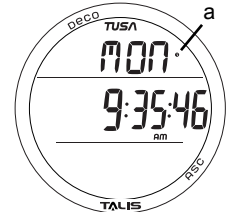

Fig. 7A - DEFAULT TIME (Main selected, at home)
Main Time is the current Time at your home location and is normally selected as the Watch Default Time (Fig. 7A).
**WATCH DEFAULT TIME**, information includes (Fig. 7A - 7D):
- > Daily Alarm icon (clock) if it is set On (Fig. 7a).